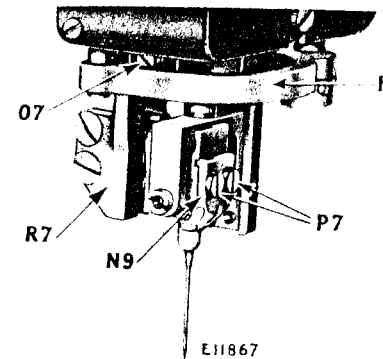
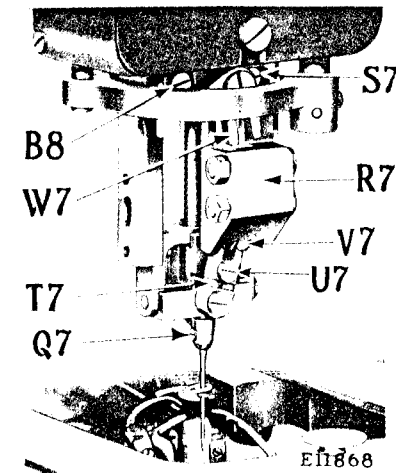

Fig. 12. Needle Vibrating Mechanism
Fig. 13. Needle Vibrating Mechanism Showing Adjustments for Regulating Width of Bight and Cutting Space
The needle vibrating mechanism is actuated by means of a cam on the upright shaft. When this shaft starts to rotate, the cam moves the connecting rod (F, Fig. 2) back and forth, causing it to rock the bell crank (J, Fig. 2) which in turn moves the link (K, Fig. 2) up and down, carrying with it the reciprocating rod (M, Fig. 2) which has the vibrating ring (H, Figs. 2 and 12) attached to its lower end. As the vibrating ring moves up and down, it swings the needle vibrating switch (W7, Fig. 13) side-ways, causing the roller (V7, Fig. 13) to be switched from one
groove to the other in the gauge plate (R7, Fig. 13). The roller (V7) is mounted upon the needle bight adjusting lever (T7, Fig. 13) which in turn is mounted on the bridge of the needle bar so that when the roller is switched in the grooves of the gauge plate (R7), the needle is vibrated from side to side.
To ascertain the alignment of the needle, loosen the needle holder clamping screws (P7, Fig. 12) and slide the needle holder so that the left hand edge is flush with the corresponding edge
of the needle holder slide, as shown at N9 in Fig. 12, and tighten the screws. Inspect the straightness of the needle and replace if necessary. Now clamp a piece of light card under the clamp checks, raise the work clamp carrier side throw lever lock pin (B6, Fig. 9) up and out of the pattern wheel (U5, Fig. 9) and then with wrench on pattern wheel clamping nut (S5, Fig. 9), turn the machine up the first side of buttonhole, at the same time making a row of light punctures in the card with the needle on the slit or central vibration. Continue up and around the eye. The needle point, while coming down the last side of the buttonhole, should exactly enter the card in the first line of punctures. If the two lines do not coincide, it will be necessary to adjust the gauge plate (R7, Fig. 13) to the right or left as may be required.
While the machine is still on the last side of the buttonhole with the gauge plate (R7) towards you, move the needle vibrating ring (H, Fig. 12) to its lowest point, then loosen the two screws (S7 and B8, Fig. 13) and turn the adjusting screw (O7, Fig. 12) to bring the two lines of needle punctures in line with each other, then tighten the two screws (S7 and B8).
Turn the machine by hand and note the movement of the roller (V7, Fig. 13) as it passes from the slot of the gauge plate (R7) into the needle vibrating switch (W7, Fig. 13) and then from the switch (W7) back into the second slot of the gauge plate (R7). Should the roller drag upon the side wall of the gauge plate or switch, it will be necessary to change the length of the rod (F, Fig. 2). After making adjustments of the rod (F), the lock nuts (E and G, Fig. 2) should be tightened.
Having followed the instruction for aligning the needle, again clamp a piece of light card under the clamp checks, raise the work clamp carrier side throw lever lock pin (B6, Fig. 9) up and out of the pattern wheel (U5, Fig. 9) and then with wrench on pattern wheel clamping nut (S5, Fig. 9), turn the machine up the first side of the buttonhole, at the same time making a row of light punctures in the card with the needle on the slit or central vibration. While on the first side of the buttonhole, loosen the needle holder clamping screws (P7, Fig. 12) and slightly adjust the needle holder to the left. The needle, while coming down the last side of the buttonhole, should enter the card about .006 inch to the right of the first line of punctures. This distance may have to be changed according to the thickness and textures of the material being sewn, as the heavier grades of materials require more cutting space than the lighter fabrics and, therefore, a greater distance between the two parallel lines of needle punctures may be required.
**To Regulate the Width of Bight.** The width of bight or stitch is regulated by the screw (U7, Fig. 13). To increase the width
To replace the looper frame (W) make sure that the machine is in the same position as referred to in the preceding paragraph with the needle bar gauge plate (R7, Fig. 12) turned towards the rear of the machine. Turn the stitch forming mechanism in the looper frame (W) so that the post for the throat plate (12, Fig. 4) is to the front, set the looper driving crank (D2, Fig. 3) with the  $\frac{3}{16}$ " hole (E2, Fig. 3) in the flange of crank to the left and slightly below the horizontal position. Carefully guide the rear edge of the chip guard (Q, Fig. 3) between the underside of the lower cutting lever and the top face of the feed wheel, and as the looper frame (W) is gently pushed to the rear, guide it so that its position pins enter the two pin holes and so the fork end of the loop retainer slide (B2, Fig. 3) enters the space between the two adjusting nuts (A2 and C2, Fig. 3) which are locked in position on the loop retainer driving bar (8, Fig. 3). At the same time slightly turn the looper driving crank (D2, Fig. 3) back and
The straightness of the needle bar should be ascertained and corrected if necessary. Remove the upper rear hinge screw for the stitch rotating connection so that the needle mechanism can be manually rotated. Then select a new needle and inspect the trueness of its point by rolling it on its shank on a flat surface. Remove the needle holder and clean off any burrs or dirt which would tip the needle holder on its seat, then replace the needle holder in position, as shown at N9, Fig. 12 (see description "**To Align the Needle**", page 31) and insert the inspected needle. Now firmly hold a piece of paper under the point of the needle and make a slight impression with the needle point, then revolve
the needle bar and note whether the point revolves without describing a circle. Should the needle point describe a circle, it will indicate that either the needle is still bent or that the seat of the needle holder is throwing the needle point. This incorrect condition should be thoroughly corrected as the needle point will be the foundation upon which the looper mechanism will be aligned and timed. After correcting the alignment of the needle point, assemble the upper rotating sector so that when the machine is on the last side of the buttonhole, the needle bar gauge plate (R7, Fig. 12) is exactly positioned squarely to the front and the screw hole on the rear end of the upper stitch rotating connection is directly over the hole on the end of the upper stitch rotating lever, then assemble the hinge screw. **Note that the identification number on the looper bracket frame (W, Fig. 3) agrees with the number on the front edge of the machine bed,** then turn the hand wheel (D, Fig. 2) until the needle moves down alongside of the threaded looper and adjust so that it just touches the blade of the needle. Ratchet the machine to the eye end of the buttonhole and note the relation between the needle and side of the threaded looper as they both revolve. The relative position of each should be maintained during the rotation but should they crowd together or gap open, it will indicate that the looper bracket frame is not correctly seated upon the machine. This condition should be corrected by removing all burrs and dirt from the seats and the dowel pin holes of the looper bracket frame and the machine bed until no further crawl is noted between the threaded looper and the needle. As the machine is on either the first or last side of the buttonhole a greater percentage of time, the looper frame position is vital to the loopers longitudinally and to the loop retainers laterally.